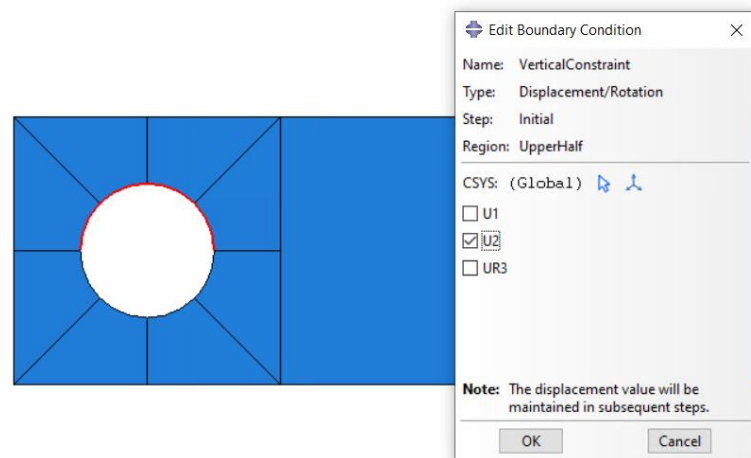

Figure 3-16 – Assigning boundary conditions restricting vertical movement of the beam at the hole.
15. Click on the Create Boundary Condition tool (), give it the name **VerticalConstraint**, select **Initial** under step, use category **Mechanical** and type **Displacement/Rotation**. Click on **Continue** and use the viewport to select the edges corresponding to the upper half of the perimeter. These edges are indicated by red color in Figure 3-16. In the prompt area, assign the name **UpperHalf** for the set and click **Done**.
16. In the **Edit Boundary Condition** dialog box, toggle on **U2** since only the vertical translational degrees of freedom need to be constrained in this boundary condition. See Figure 3-16. Click **OK**.